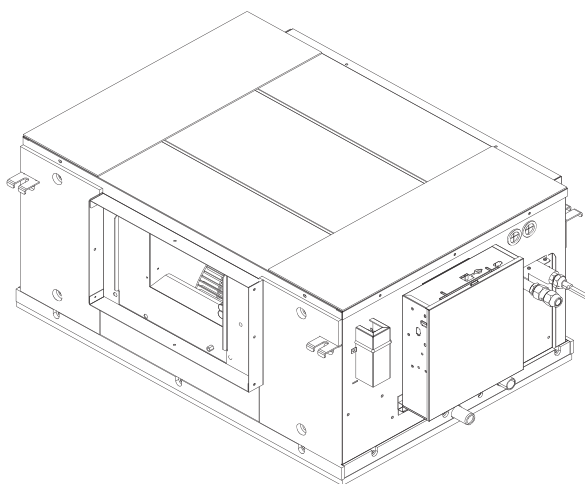

Fig.4-12
1. The whole unit status show as Fig.4-12
2. Remove the all 11 screw from fixed Safety Drain Tray, and then take off the tray as figure showed in Fig.4-12.